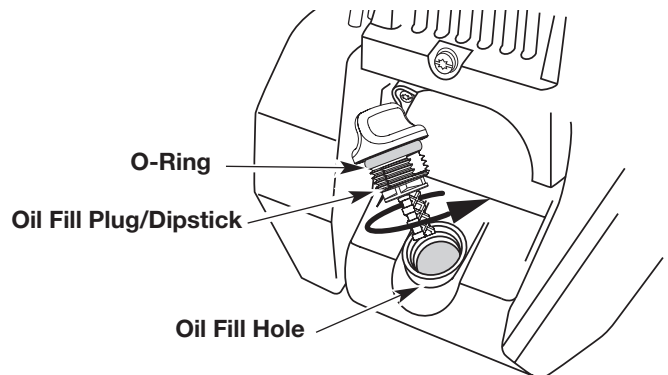

Fig. 41
6. If the level is low, add a small amount of oil to the oil fill hole and recheck (Fig. 41). Repeat this procedure until the oil level reaches the top of the dipstick.
NOTE: Make sure the O-ring is in place on the oil fill plug/dipstick when checking and changing the oil (Fig. 41).